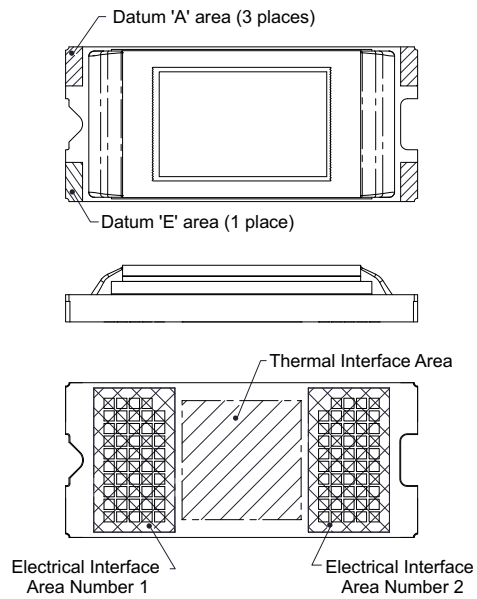

图 7-4. System Interface Loads for FQD
- (1) See 节 13 for diagrams.
(2) See 图 7-4 for diagrams.
(3) See Mounting Concepts DLP4500FQE.
(4) See Mounting Concepts DLP4500FQD.